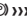

Fig. 266 In the centre console: electronic parking brake button
- Pull and hold the  **Fig. 266** button.
- The parking brake is activated when both the control lamp of button **Fig. 266** and the  control lamp on the instrument panel are both on.
- Press the button  **Fig. 266**. At the same time step hard on the brake pedal or, if the engine is running, press the accelerator pedal slightly.
- The indicator lamp on button **Fig. 266** and the  indicator lamp on the instrument cluster turn off.
The parking brake can be prevented from being automatically released by continuously pulling up the  **Fig. 266** switch when starting off.
- Pull and hold the  **Fig. 266** button in this position to **forcefully** stop the vehicle. At the same time, an acoustic warning can be heard.